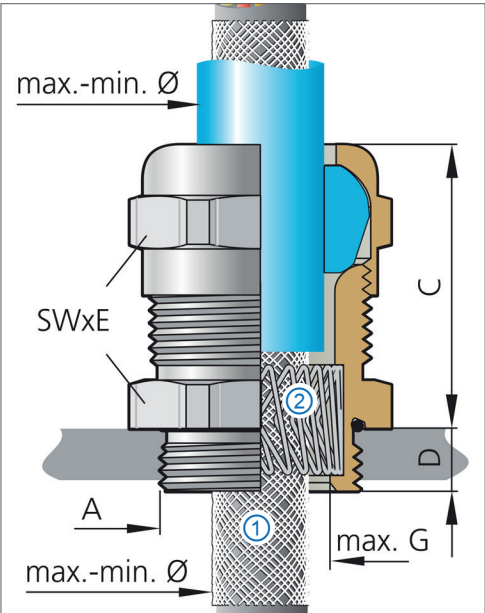

Fig. 8-3: Cable gland (longitudinal section)
To ensure proper contact between the braided shield ① and the triangular spring ② in the cable gland (Fig. 8-3), the cable has to be mounted carefully, so that the position of the stripped cable matches that of the triangular spring.³⁷